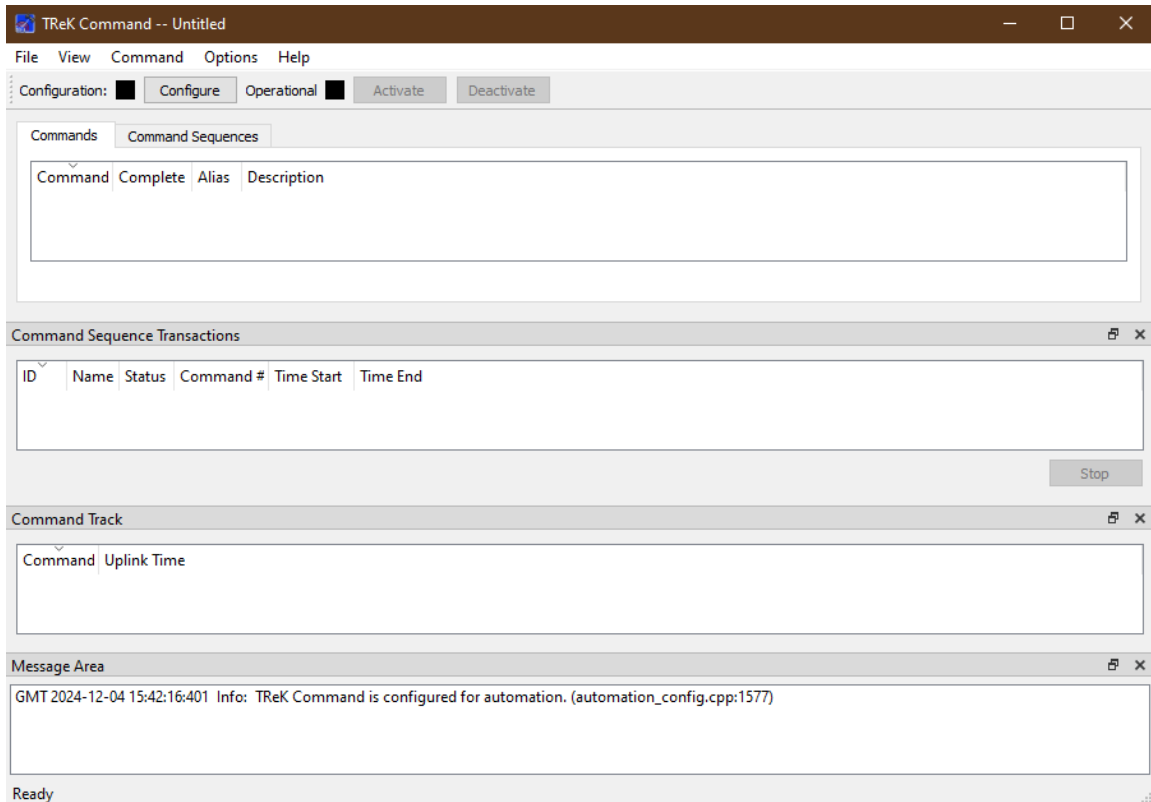

Figure 3 TReK Command Main Window
1. If you haven't started the Command Application, use the operating system's menu to start the application. You should see the Command main window shown in Figure 3.